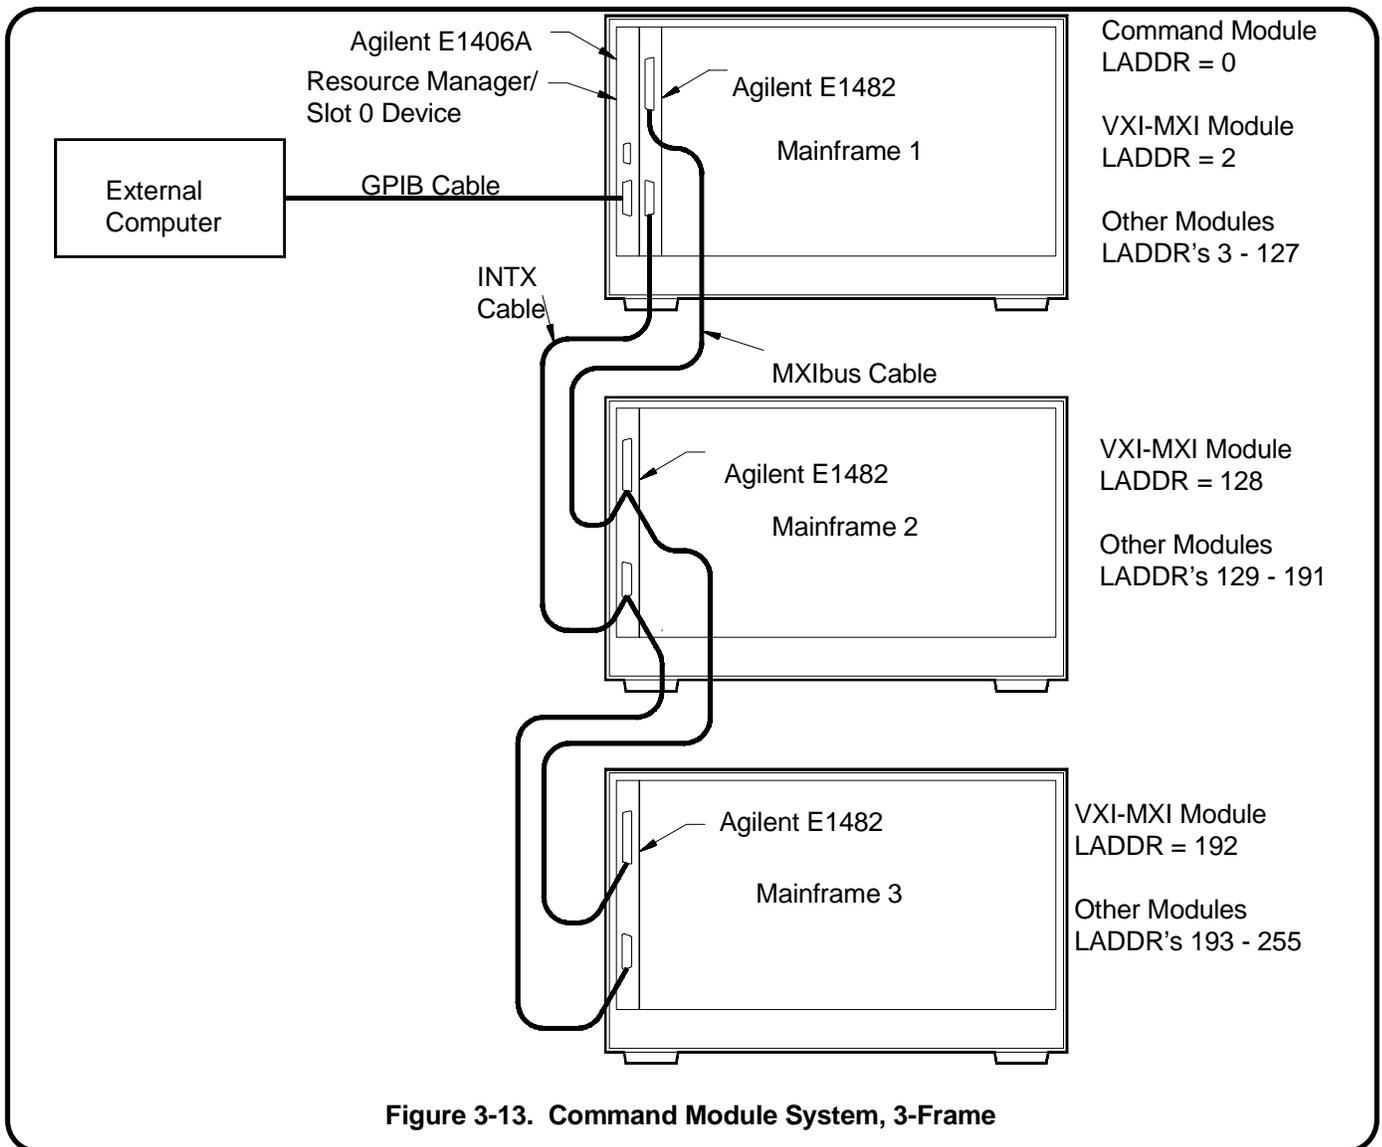

Figure 3-13. Command Module System, 3-Frame
- 3-Frame System - Command Module (Figure 3-13)